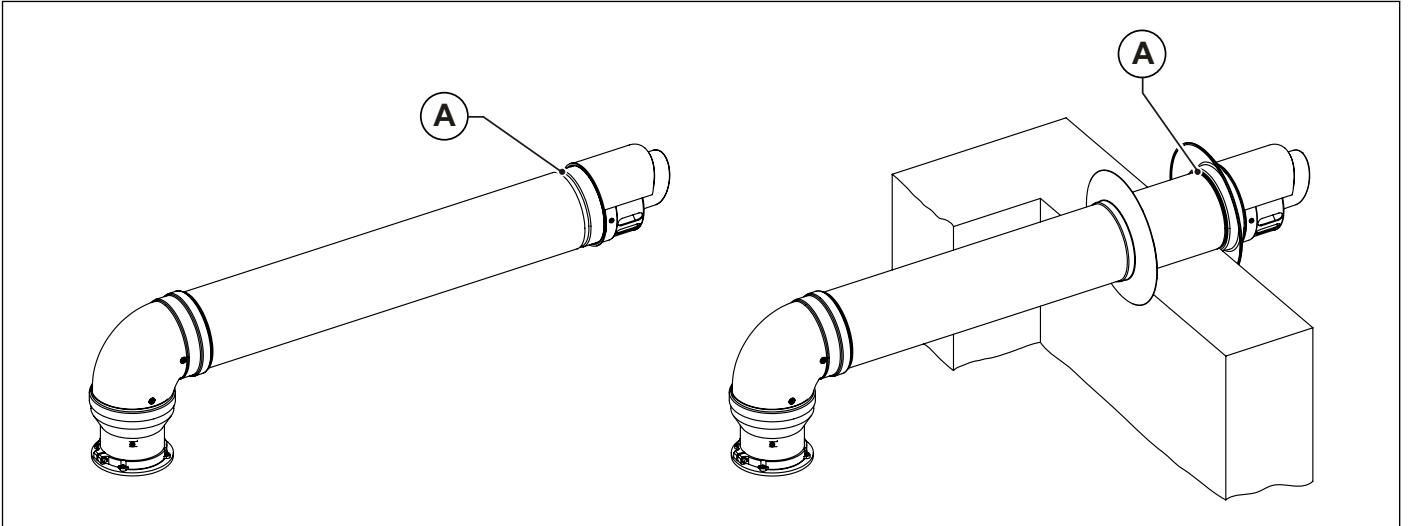

Fig. 18 Wall-mounted terminal installation
The final parts of air intake and flue gas venting terminals, both split and coaxial, feature a groove (A) to fix the external collar (see Fig. 18 Wall-mounted terminal installation).